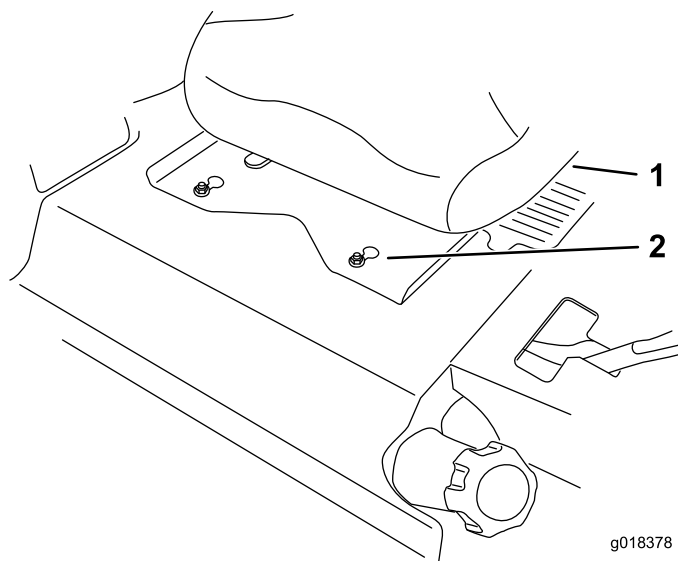

Figure 1
- Slide the seat and seat plate forward to allow the front nuts to go through the key holes (Figure 1).
9. Slide the seat and seat plate rearward to lock the front nuts into the key hole and the rear nuts into the slots (Figure 1).